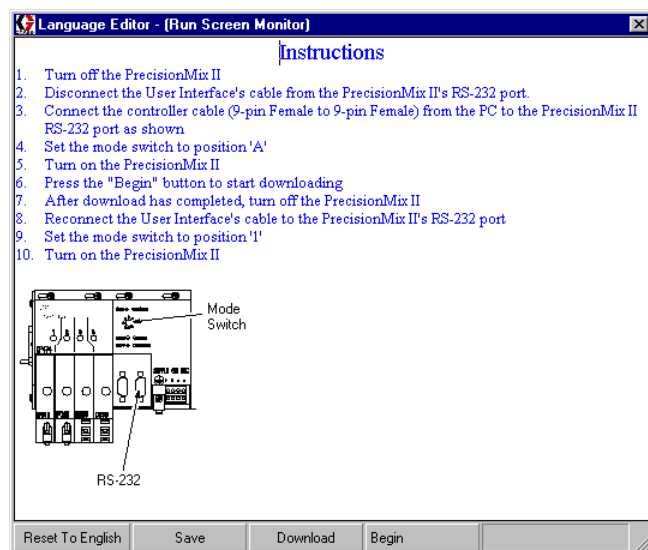

Fig. 13.66
9. An Instructions window to Download Language File Program will appear. See Fig. 13.66. If you are familiar with the update process, you can follow the steps in the window. The following instructions provide more detailed information.
- d. Press the BEGIN button in the Instruction screen to begin downloading the language file to the Run Screen Monitor. See Fig. 13.66.